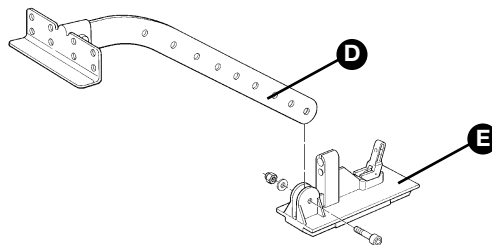

Figure 18
**6** Fix the leaf bracket [D] to the upper carriage [E] with the V6x18 screw and related washer as in fig. 18.